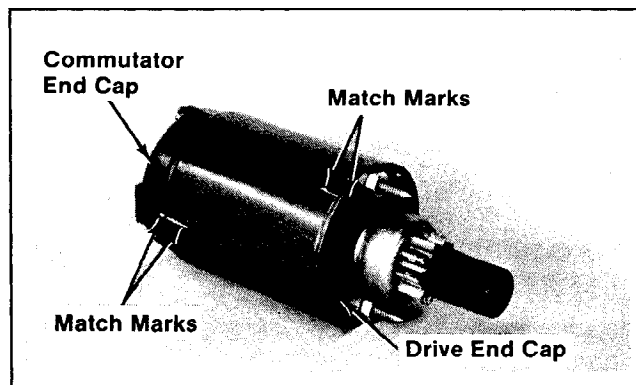

Figure 8-25. Starter Assembly Match Marks.
- Install the thrust washer and drive end cap. Make sure the match marks on end cap and frame are aligned. Refer to Figure 8-25.
- Make sure the match marks on end cap and frame are aligned. Refer to Figure 8-25. Install the thru bolts.